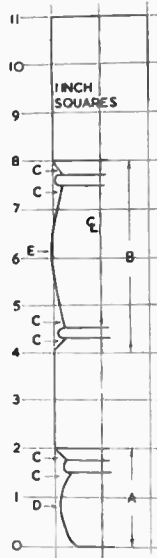

Fig. 4—Shape marked on wood
Use metalworker's callipers, with a spring bow and an adjusting screw. Besides a pair of these, some 'in-and-out' callipers are very useful, indicating at one end the distance spanned by the outside jaws, and at the other end the same distance between two projecting parts. Now, in the drawing, sketch in the sweeps and bulges (see Fig. 4), and we can proceed to transfer the basic dimensions to the wood blank.
Cut another notch at $4\frac{1}{2}$ in. and a third one at $7\frac{1}{2}$ in. (see Fig. 4). All these dimensions are taken from the ground or from the 'foot end' of the leg. The width of the beads is shown as $\frac{1}{2}$ in. Three other notches, defining the thickness of the beads, can now be worked, but these may come a little beyond the $\frac{1}{2}$ in. dimension provided none is taken very deep. All we need is a 'safety line' at present.
Rough off the portions, marked (A) and (B) in Fig. 4, which are to be shaped. Take off no more stuff than is needed to obtain a true cylinder at the widest parts of the design. If this roughing obliterates the chisel notches, deepen them enough to serve as a guide for subsequent work.
of the beads, but leave the outer face of the bead untouched. These recessed points are marked (C,C) in Fig. 4. The $\frac{1}{2}$ in. gouge is the tool to be used.